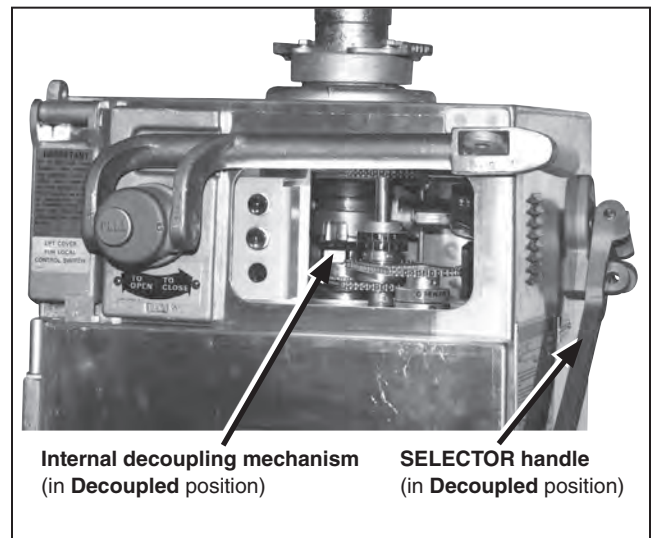

Figure 48. Verify the switch operator is decoupled.
- STEP 3.** Look through the observation window and verify the internal decoupling mechanism is in the **Decoupled** position. See Figure 48.